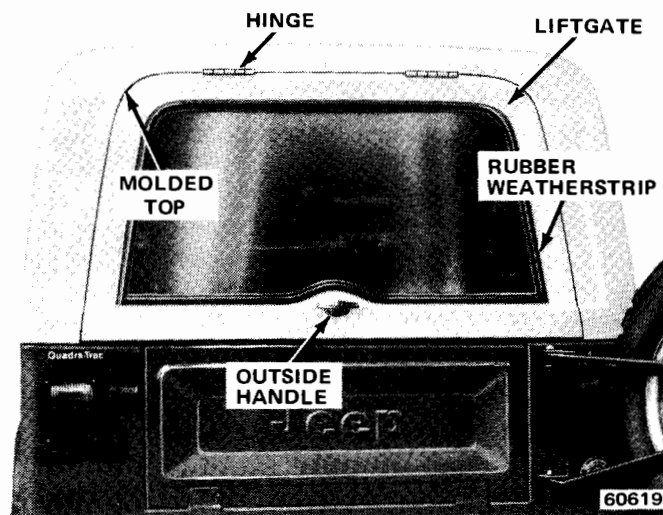

Fig. 20-2 Liftgate Exterior Components
(4) Loosen screws, using Torx Bit Tool J-25359, attaching hinges (fig. 20-2).
(5) Close liftgate and shift liftgate to obtain desired gap (side-to-side).
(6) Open liftgate and tighten hinge-to-liftgate screws using Torx Bit Tool J-25359.
(7) Position latches on liftgate and install attaching screws using Torx Bit Tool J-25359.
(8) Position supports on liftgate and install attaching screws.
(9) Install lockpins on support attaching screws.
(1) Unlock rubber weatherstrip (fig. 20-2) using wood wand or fiber stick.
(2) Use fiber stick to break seal between glass and rubber weatherstrip.
(3) Push glass and weatherstrip toward outside of vehicle. Remove glass.
(4) Remove weatherstrip from liftgate opening.
(5) Inspect weatherstrip and clean off sealer from glass cavity and flange cavity.